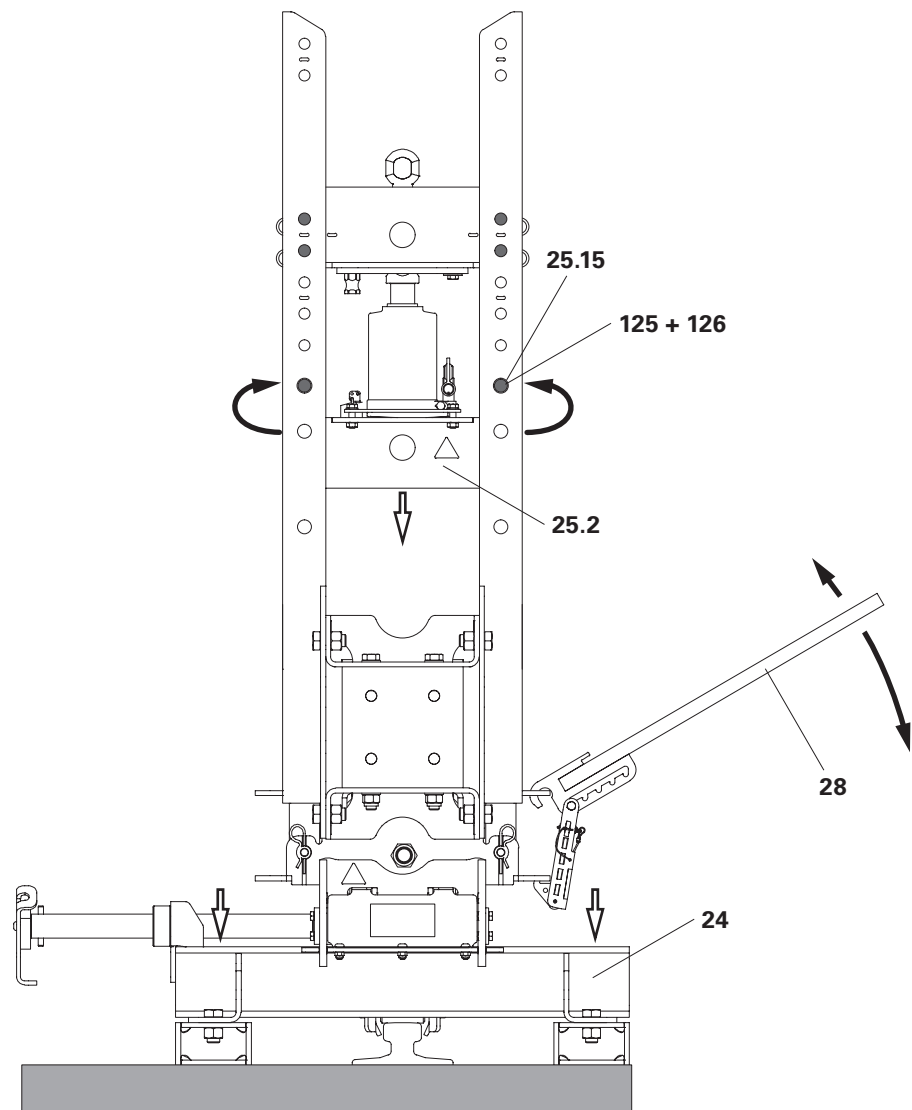

Fig. D2.10
4. Hook the lifting tool into the lift-frame for parking. (Fig. D2.10)